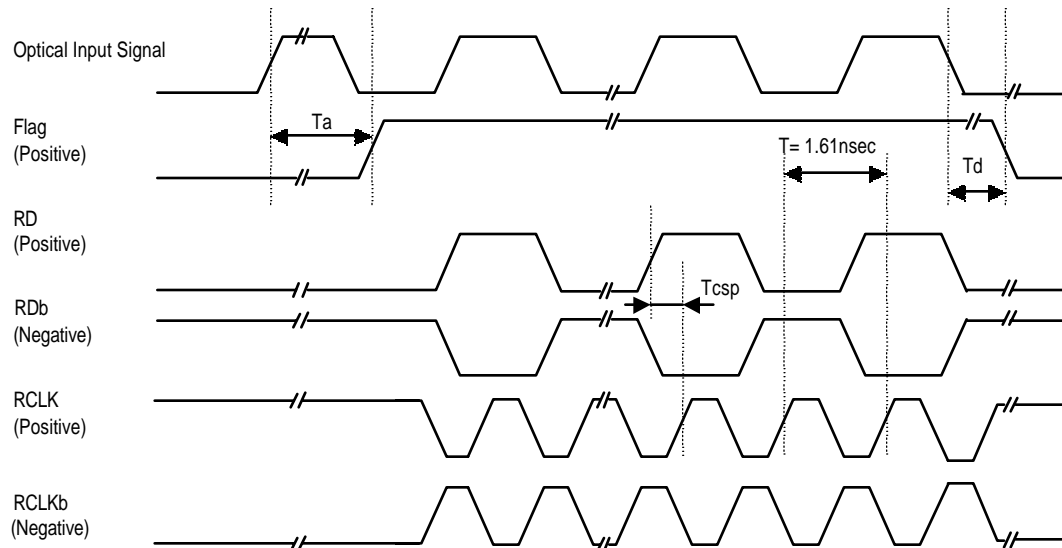

Figure 4. Timing Chart
6. Refer to Figure 4. 7. Phase difference between rising edge of RD and Rising edge of RCLK. Refer to Figure 4.
4. Refer to Figure 4